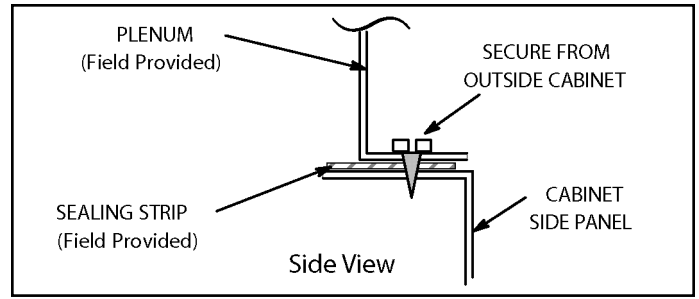
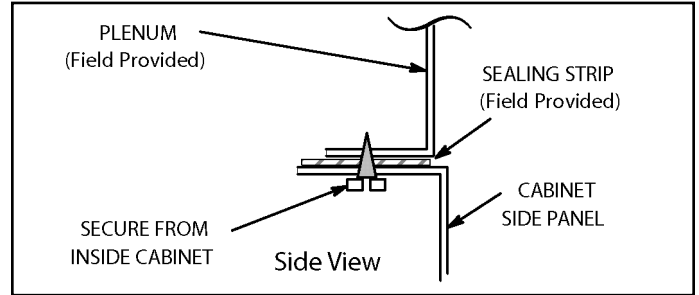

Figure 18.
Figure 19.
1. Bottom edge of plenum should be flanged with a hemmed edge (see Figure 18 or Figure 19).